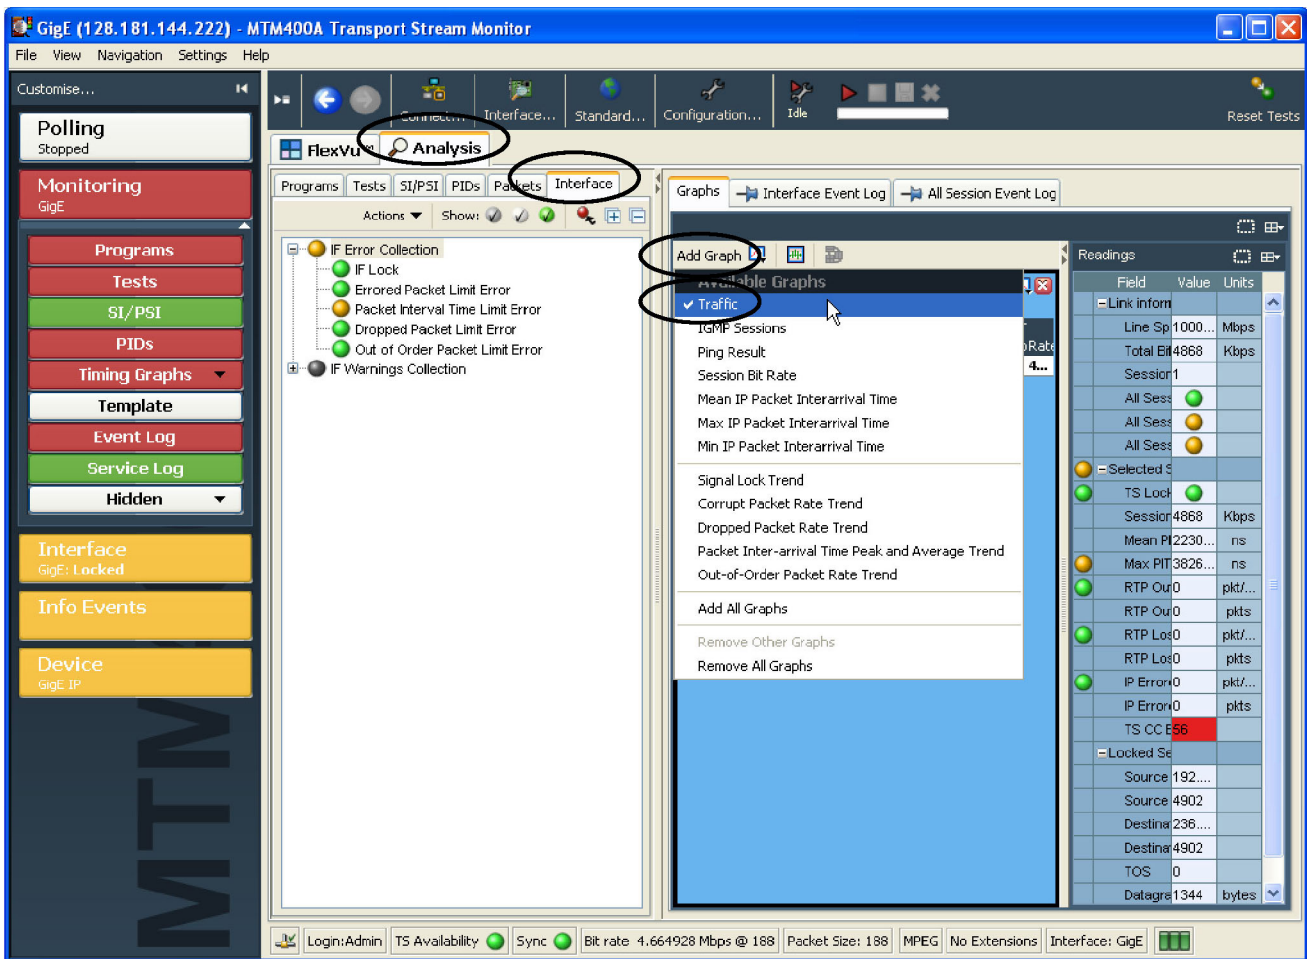

Figure 11: Selecting the Traffic graph
11. Click **Add Graph** on the Graphs tab, and then select **Traffic** from the Available Graphs drop-down list. (See Figure 11.)